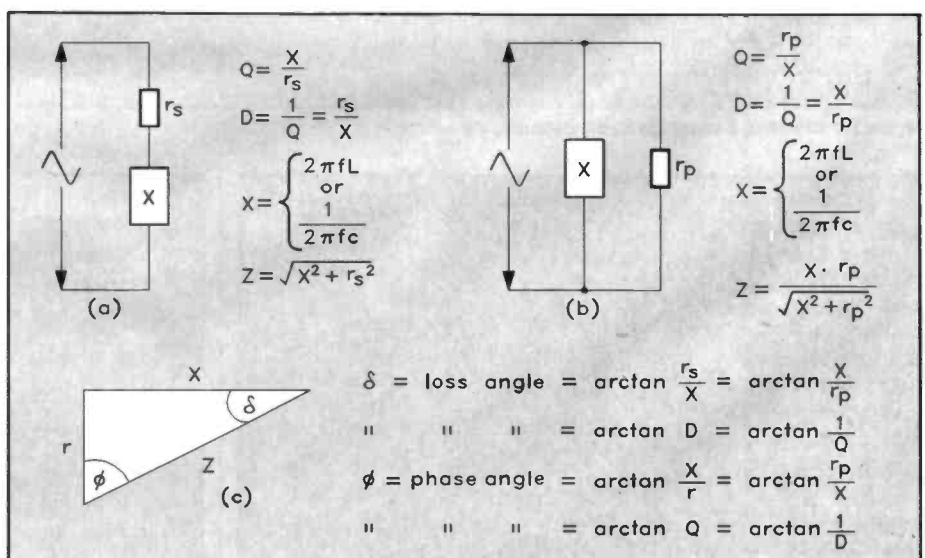

Figure 14. Any capacitor or inductor can be represented by a series (a) or parallel (b) equivalent circuit, which determines its phasor diagram (c).
and X is normally called 'Q' in an inductor, or 'D' or the 'loss factor' in a capacitor; one of its major effects is to shift the device's voltage-to-current phase relationship, ϕ (pronounced phi), from the ideal value of 90° to some value between zero and 90° ; the difference between this and the ideal value is known as the loss angle, δ (pronounced delta) of the phasor diagram. Another major effect of Q or D is to shift the components impedance (Z) away from its pure reactance (X) value. All the formulae relevant to the subject are shown in Figure 14.